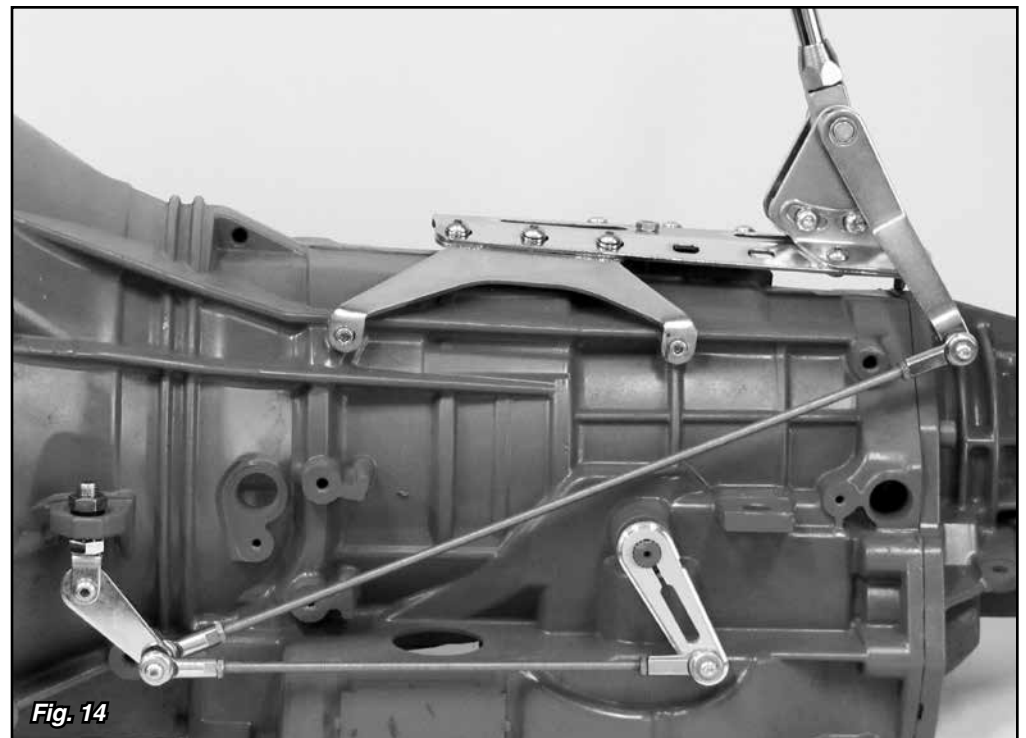

Fig. 14
Once you have the shifter linkage adjusted correctly, tighten the jam nuts on the long threaded rod. See Fig. 14 for a completed installation.
Step 21: Loosen, but do not remove, the two 5/16"-24 x 3/8" button head bolts that attach the switch plate to the right side banana bracket (the bolts are in curved, slotted holes). **Fig. 14**